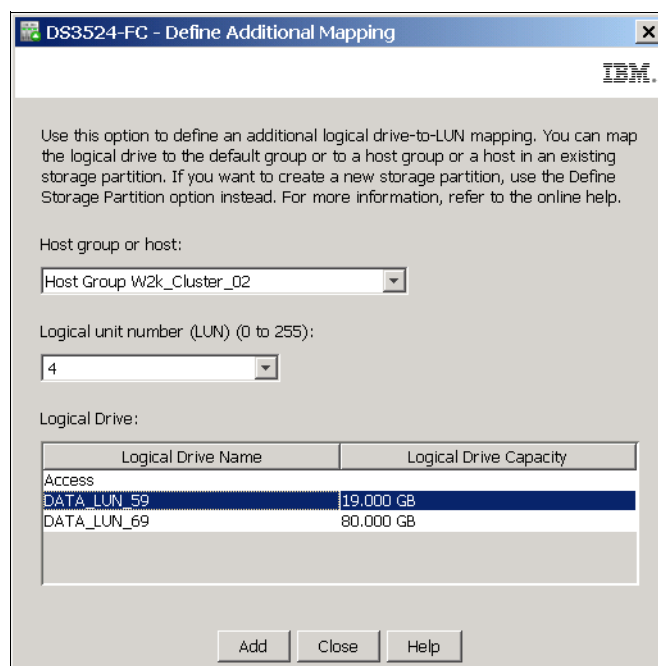

Figure 11-22 Additional Mapping - select logical drive
2. In the Define Additional Mapping window (Figure 11-22), select the logical drive you want to map to this host group or host, and assign the correct LUN number. Your host group or host is already preselected. In case you selected a logical drive in Undefined Mapping section for additional mapping, you need to select the host or the host group where it has to be mapped, and the correct LUN number. In our example the logical drive is preselected.